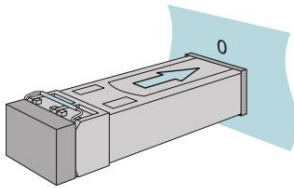

Figure 32: Installing the transceiver
- ☐ Push the SFP transceiver with the lock closed into the slot until it latches in. See Figure 32.